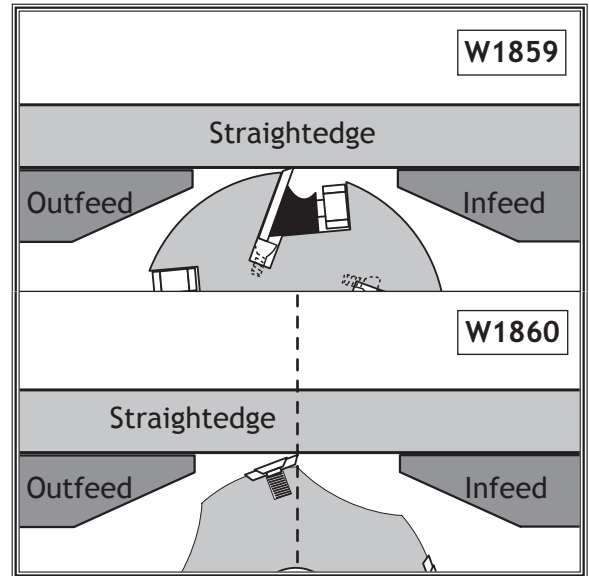

Figure 59. Infeed table even with outfeed table.
4. Adjust the infeed table until it is even with the outfeed table (see **Figure 59**).